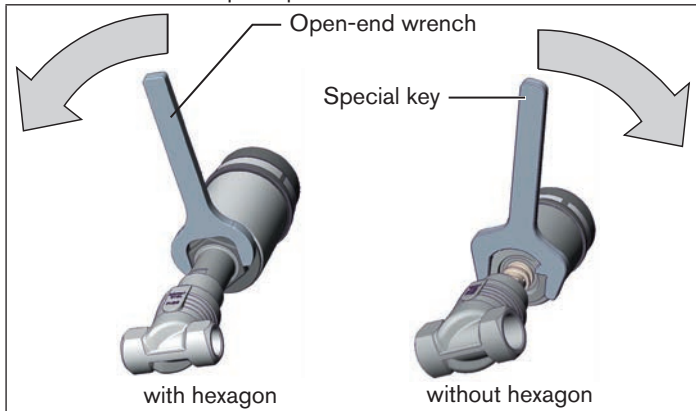

Fig. 16: Rotating with special key / open-end wrench
- ▶ Rotate the actuator module in the specified direction only (see “Fig. 16”)!